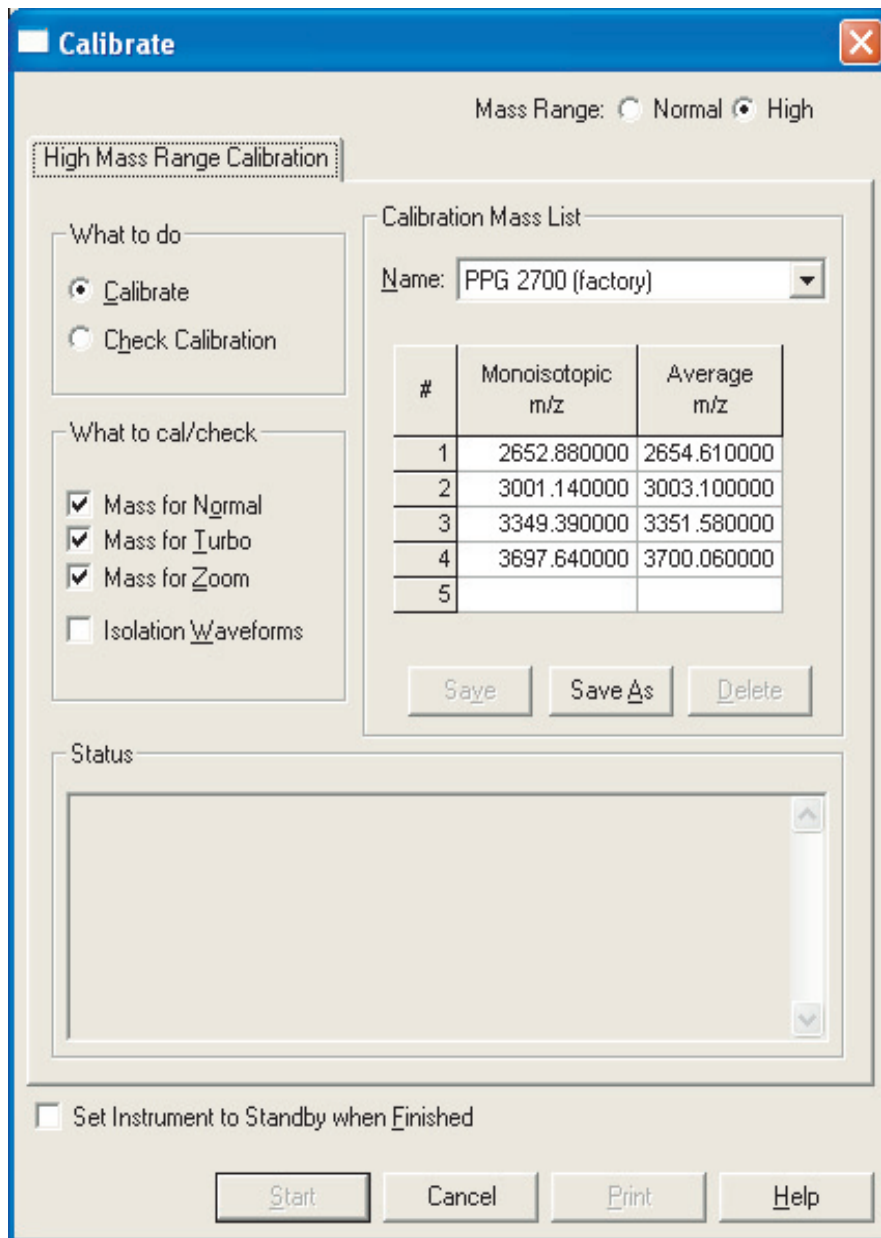

Figure 72. Calibrate dialog box
4. In the Tune Plus window, choose **Control>Calibrate** to open the Calibrate dialog box (Figure 72).
5. For Mass Range select the High button (upper right of the Calibrate dialog box). The High Mass Range Calibration tabbed page will appear (as shown in Figure 72).
- a. Select from the name of a previously saved calibration mass list the Name box. The calibration masses saved in the selected list appear in the table below the Name list box (in the Monoisotopic m/z and the Average m/z columns). The example in Figure 72 shows the calibration masses saved for the calibration mass list: PPG 2700 (factory).
9. In the 'What To Cal/Check' area, click the Mass for Normal, Mass for Turbo, and the Mass for Zoom check boxes as shown in Figure 72.